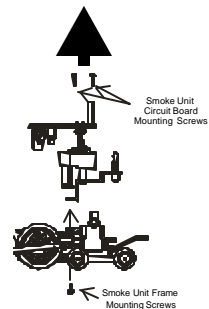

Figure 4: Inspecting The Smoke Unit
**CAUTION:** Operating the engine without smoke fluid and with the smoke unit switch in the ON position can damage your smoke unit wick, causing the wick to become hard, blackened and unabsorbant around the heating element. When this occurs, it may be difficult for the wick to soak up the smoke fluid resulting in poor or no smoke output. If that occurs, we recommend that you inspect and/or replace the wick taking care to not run the engine without fluid in the future. You can inspect the wick to see if it needs replacement by removing the smoke unit inspection cover from the body as seen in Fig.4. After removing the chassis and inspection cover screws lift the inspection plate away and inspect the wick. If the wick is darkly discolored and hard, it should be replaced.